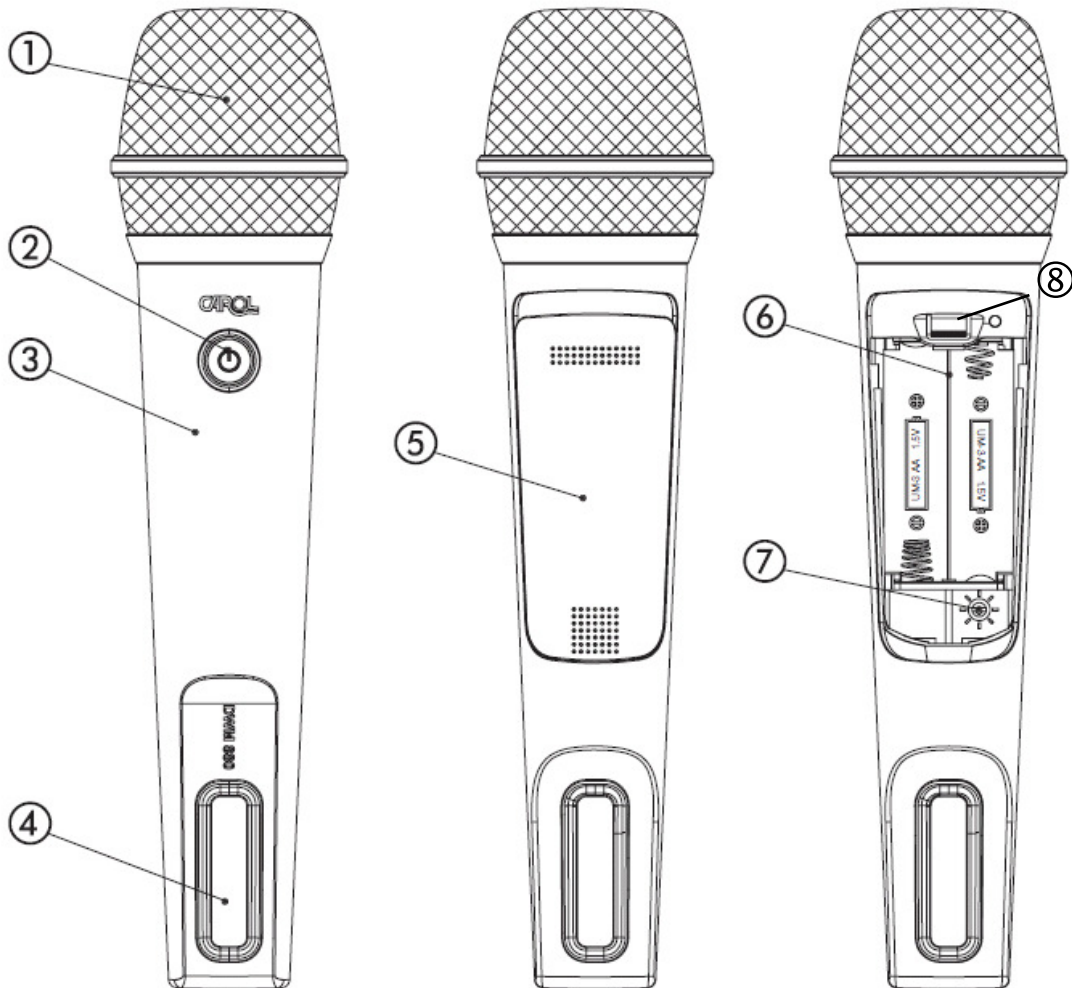

Figure 2.2
2.2 DWM-880 Digital Wireless Handle Microphones (as shown in figure 2.2)